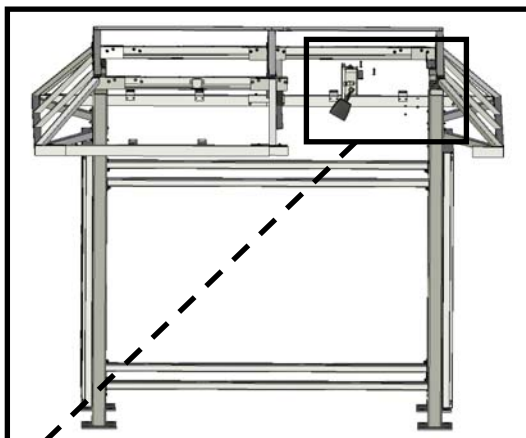

Figure 9
- b) Use (2) 48195 Screws, (2) 48175 Washers, and (2) 48177 nuts to attach the top bracket to the upper tube of the vertical support. See Figures 9 and 10.